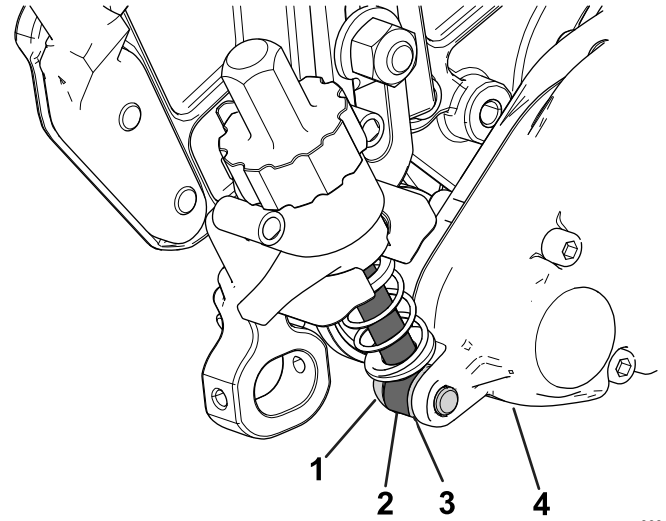

Figure 12
3. On the groomer drive box side, position the adjuster-arm rod of the HOC bracket on the inside of the groomer drive box and secure it with a shoulder bolt and a hardened washer as shown in Figure 12; torque the shoulder bolt to 16 to 22 N·m (12 to 16 ft-lb).